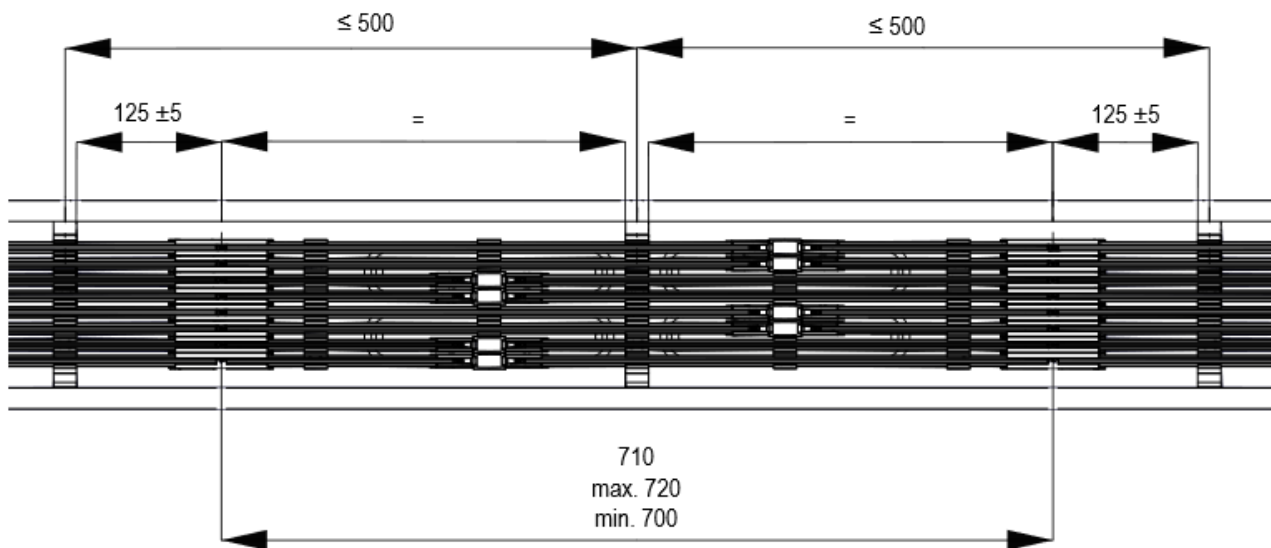
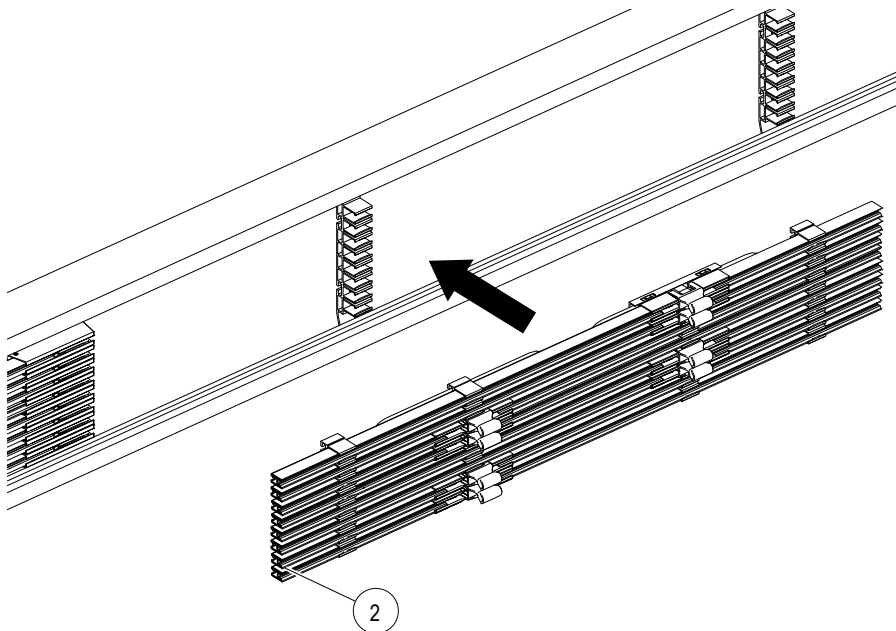

Fig. 70: Distance hanger clamps
Fig. 82: Hang the expansion module in the hanger clamps
- The distance from the center of the connector to the hanger clamp (left and right of the expansion module) must be 125 ± 5 mm. Move a hanger clamp if necessary. If a hanger clamp must be moved or supplemented with another hanger clamp, the distance to the next hanger clamp must not be greater than 500 mm (see Fig. 70).
→ Hang the expansion module (Pos. 2) in the hanger clamps (see Fig. 82). The hanger clamp must be centered between the expansion joints (see also Fig. 70). It can also be aligned if required.